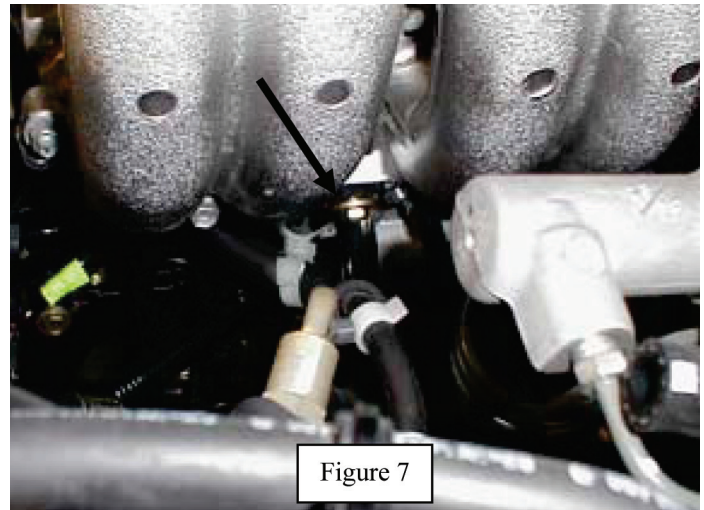

Figure 7
16. Remove bolt from the upper side of the intake chamber bracket see arrow in Figure 7. Loosen lower bolt from air intake chamber bracket.